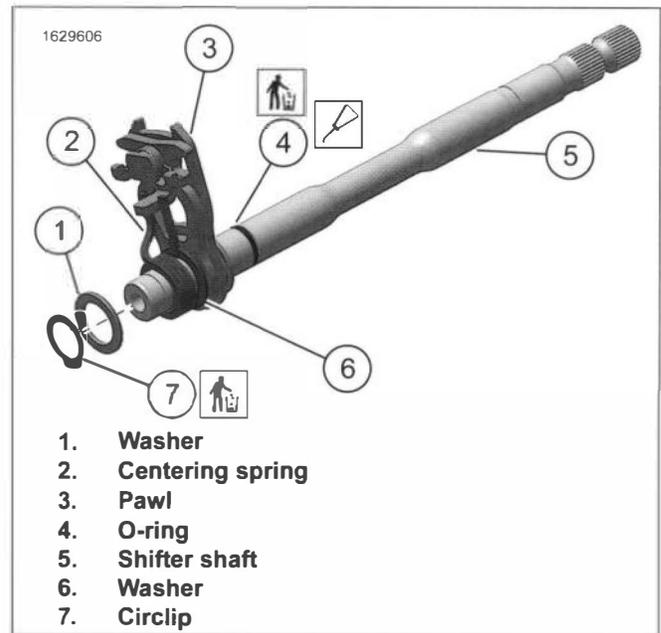

Figure 5-13. Shifter Shaft Assembly
- a. See Figure 5-13. Remove circlip (7). Discard.
- b. Remove washer (1).
- c. Remove centering spring (2).
- d. Remove washer (6).
- e. Remove O-ring (4). Discard.
- a. See Figure 5-13. Lubricate and install **new** O-ring (4).
- b. Install washer (6).
- c. Install centering spring (2) as shown.
- d. Install washer (1).
- e. Install **new** circlip (7).